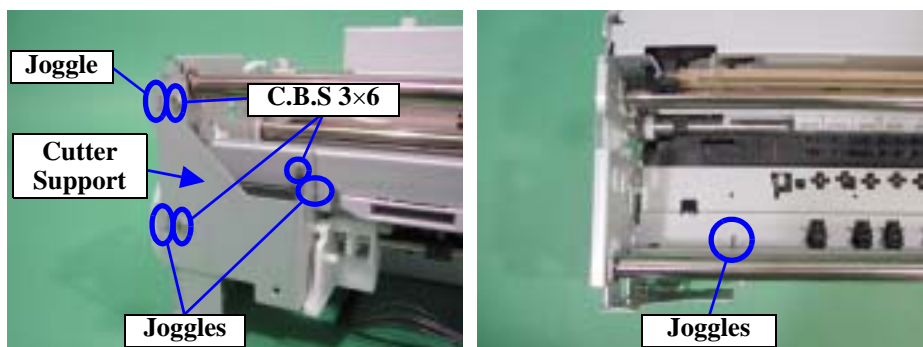

Figure 4-44. Screws That Secure the Cutter Support
- When reinstalling the Cutter Support, insert the four joggles securely to fix the Cutter Support. Refer to Figure 4-44, "Screws That Secure the Cutter Support".